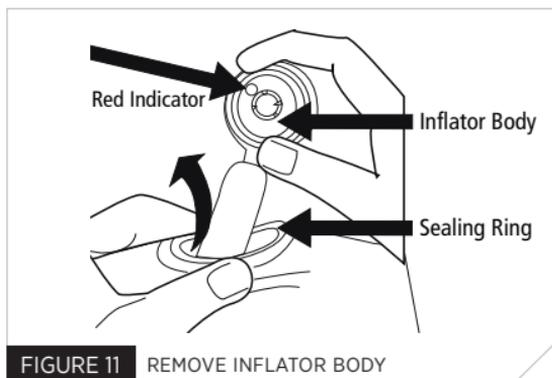

FIGURE 11 REMOVE INFLATOR BODY
- Squeeze the sealing ring to elongate and remove the inflator body through the sealing ring (Fig. 11).